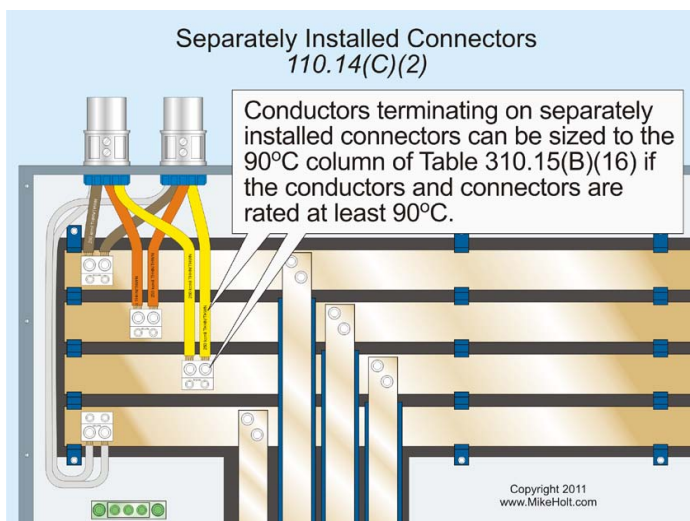

Figure 110-17
(2) Separate Connector Provisions. Conductors can be sized to the 90°C column of Table 310.15(B)(16) if the conductors and pressure connectors are rated at least 90°C. **Figure 110-17**